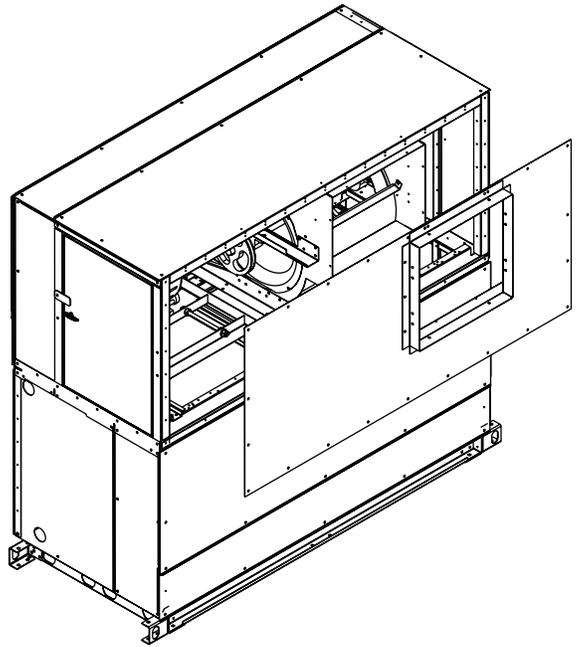

Fig. 91 – Remove All Panels
2. Remove all of the panels from the fan section (Fig. 91).